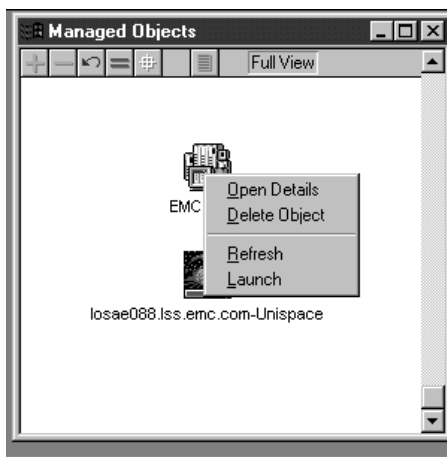

Figure 6-18 Refresh EMC View
2. Select **Launch** from the pop-up menu (Figure 6-18).
2. Select **Refresh** from the pop-up menu (Figure 6-18).